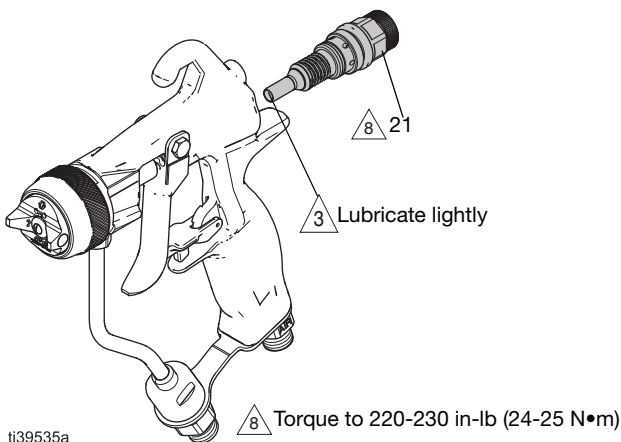

FIG. 43: Air cartridge installation
Clean air cartridge housing	FIG. 43 on page 30
3. Slide assembly (21) out of the gun.
5. Lubricate the air cartridge tip and thread the air cartridge assembly (21) into the back of the gun. Torque to Torque to 220 in-lb (24-25 N•m). See FIG. 43.
7. Lubricate the air valve tip (21a), and thread into the back of the gun. Torque to 220-230 in-lb (24-25 N•m). See FIG. 43.
2. Loosen the air cartridge assembly (21) from the back of the gun using the gun tool (29).
3. Pull the air cartridge assembly (21) out of the gun. See FIG. 43.
7. Lubricate the air valve (21a), and install the air cartridge assembly (21) into the back of the gun. Torque to 220-230 in-lb (24-25 N•m). See FIG. 43.